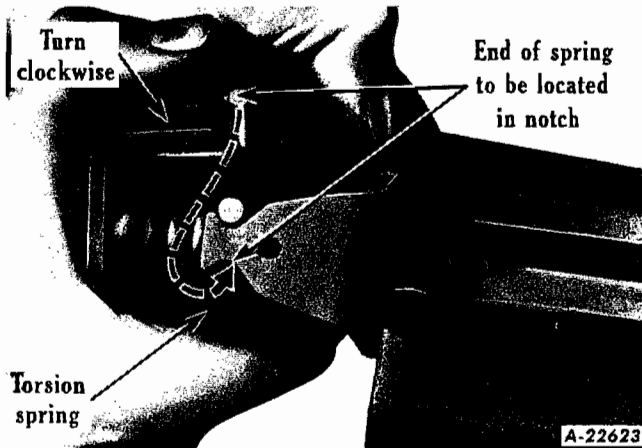

Fig. 19
1. When reassembling the spring and levers, locate parts as shown (Fig. 19). Turn lever and spring clockwise, bringing end of spring around end of lever nearest vise. Push end of spring into notch of actuating lever nearest vise. This will preload spring.